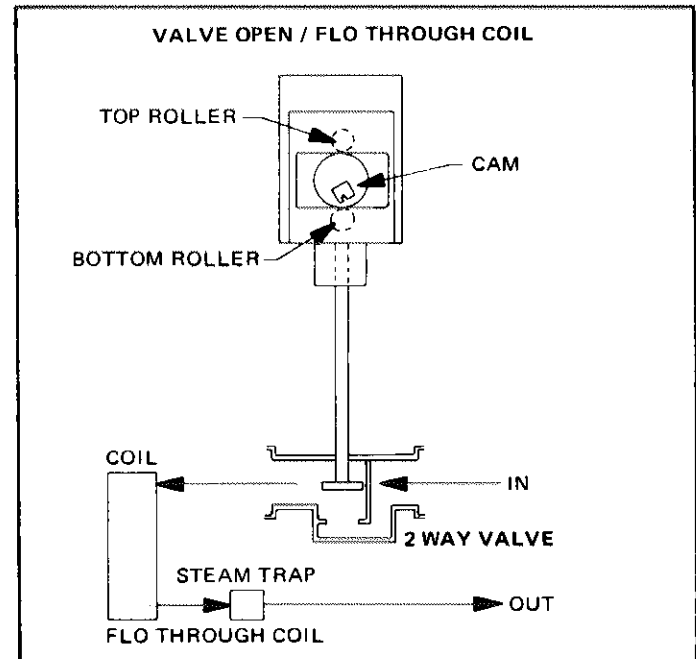

FIGURE 58
- 3 - Remove the jumper installed in step 2. Motor should rotate clockwise lifting valve stem. Refer to Figure 58.